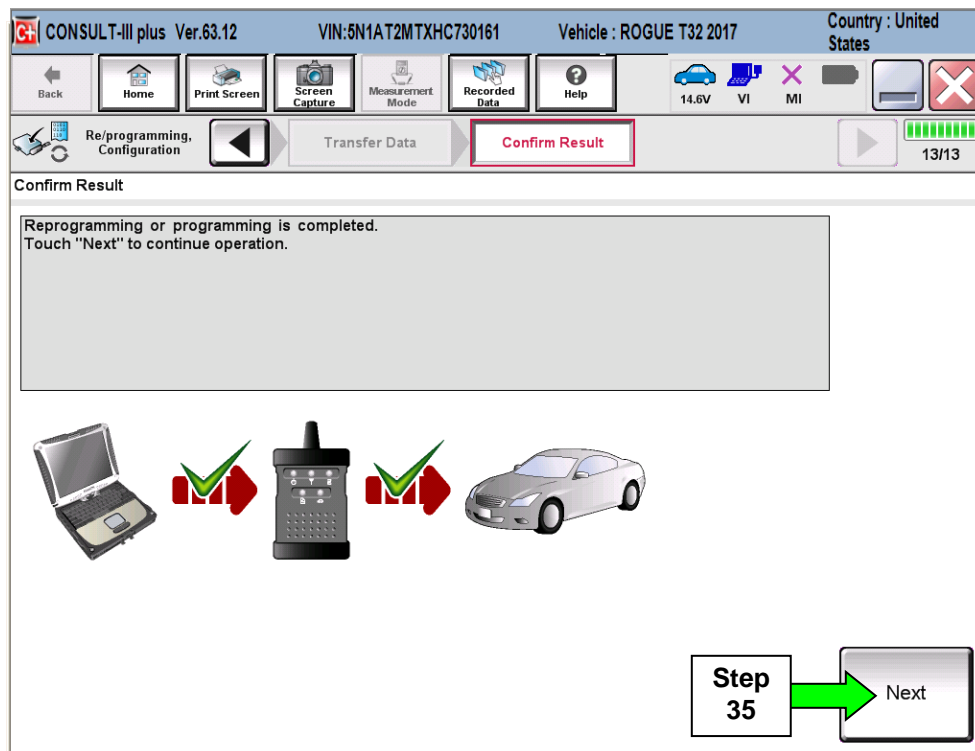

Figure 19
34. When the screen in Figure 19 displays, the reprogramming is complete.
**NOTE:** If the screen in Figure 19 does not display (reprogramming did not complete), refer to the information on the next page.